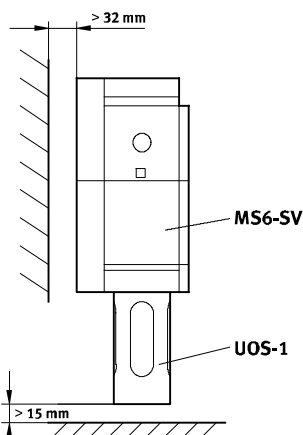

Fig. 3 Installation
- Place the MS6(N)-SV-...-E-ASIS so that you will have sufficient space for the AS-i connection and the silencer → Fig. 3 Installation with silencer UOS-1 from Festo.